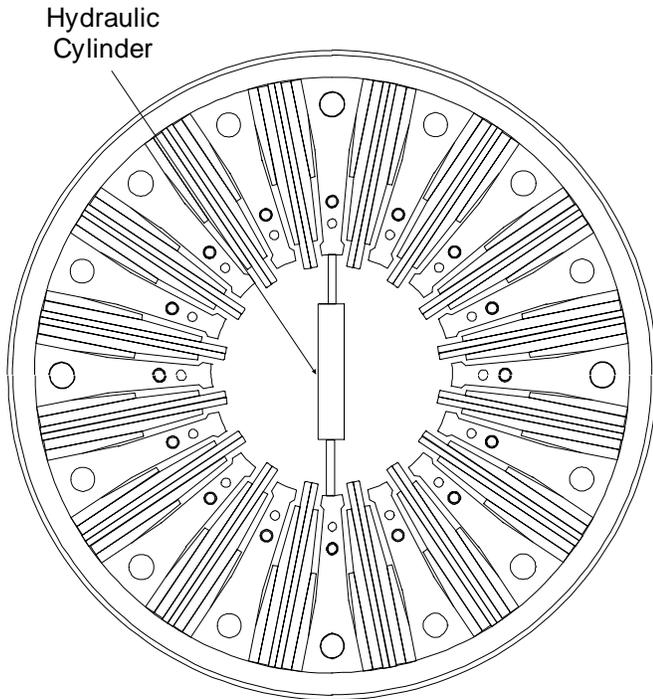

Figure 12
- 4.6.1.1 Adjustment can be achieved on larger couplings by using a hydraulic cylinder placed at the ends of opposed spring spacers. Smaller couplings can be corrected with radial strikes onto the outside of the tensioning ring using a SOFT FACED HAMMER. See Figure 12.